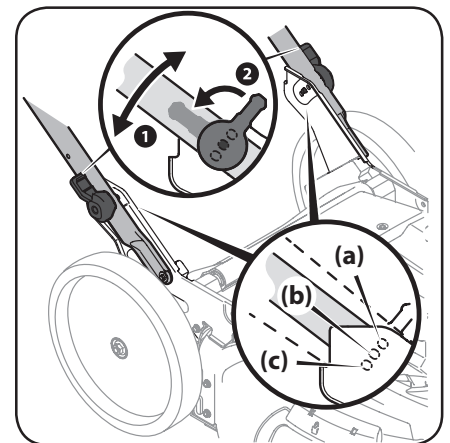

Figure 2-3
9. Place the handle into one of the three handle height positions, high (a), medium (b) or low (c), located on the handle brackets. See Figure 2-3.
10. Turn the handle adjustment levers until they are parallel with the handle to release the pins and lock them into one of the handle height holes in the handle brackets. See Figure 2-3 inset.